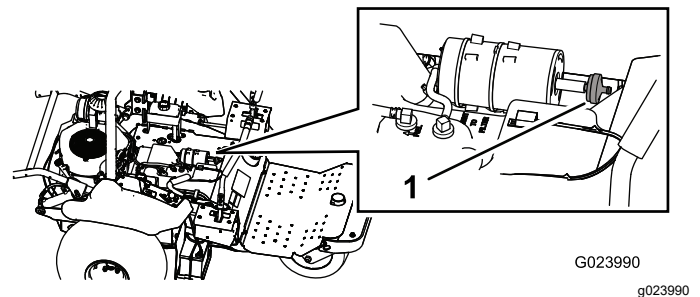

Figure 44
3. Disconnect the filter from the carbon canister (Figure 44).